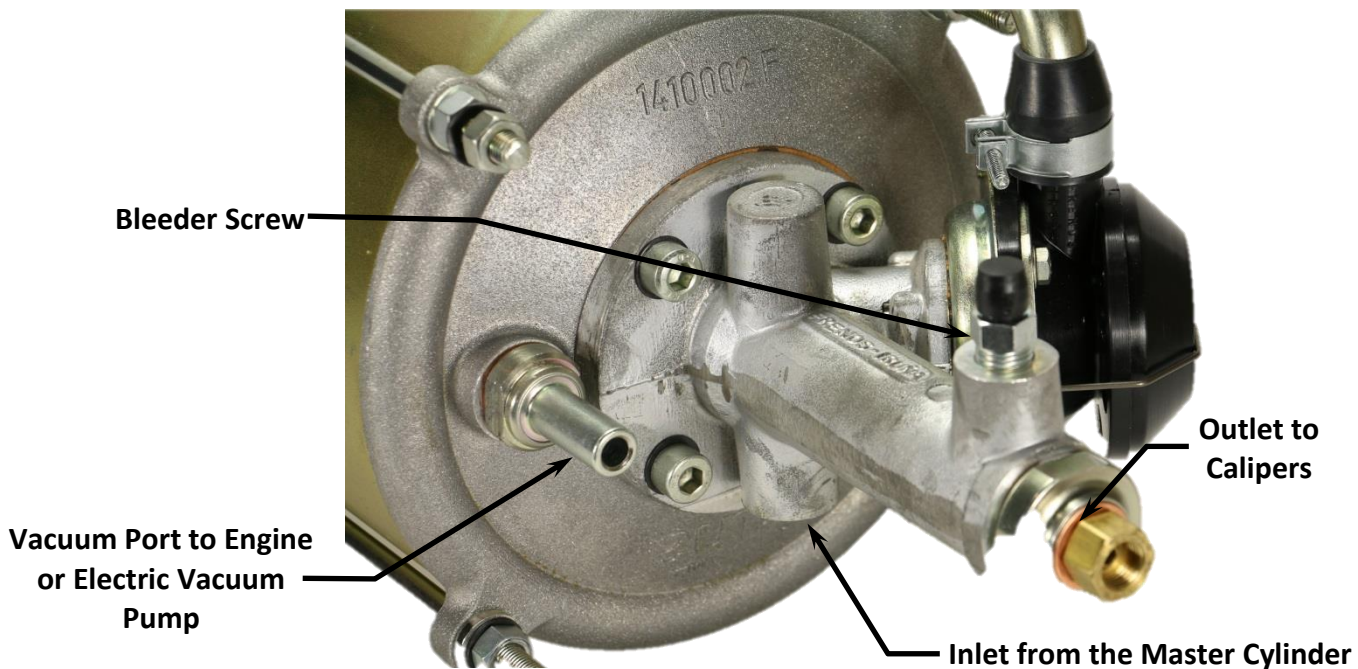

Figure 1 – Port Locations
- When plumbing the unit, the front brake port on the firewall mounted master cylinder will go from the master cylinder to the Inlet port on the booster. The Outlet will then route from the booster to the front brake calipers. See Figure 1 below for port locations